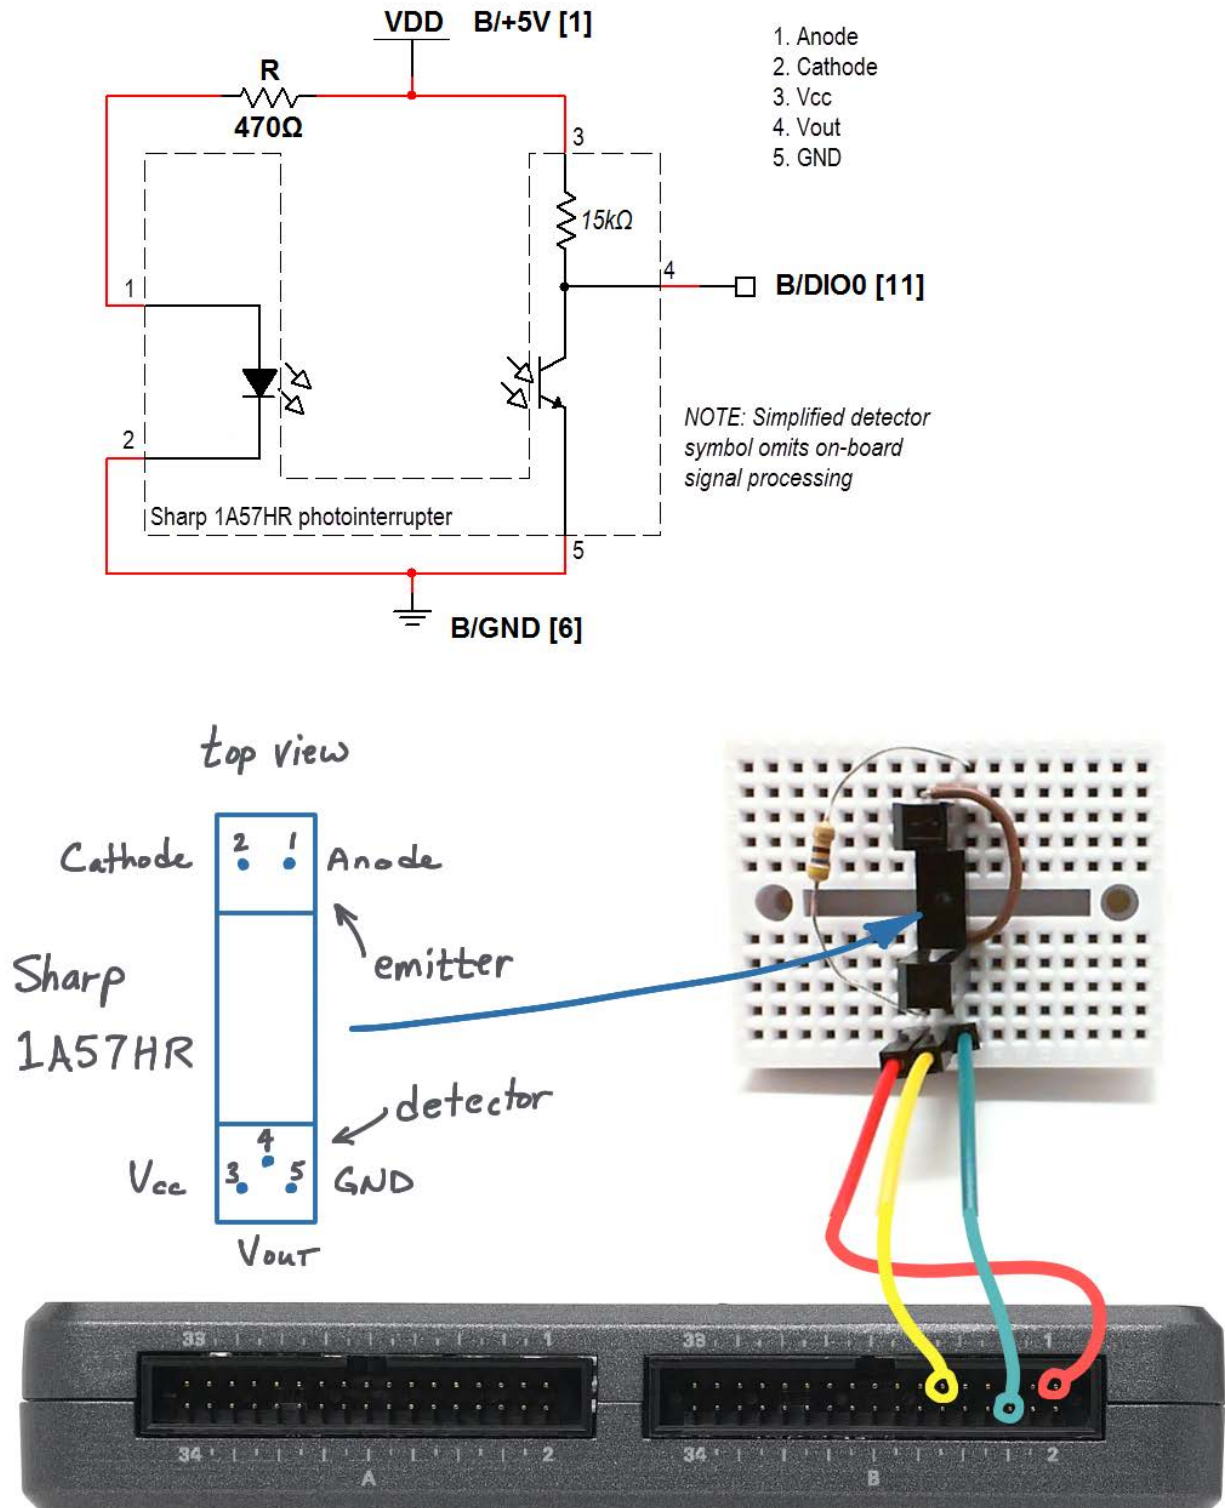

Figure 14.2: Demonstration circuit for photointerrupter: schematic diagram, recommended breadboard layout, and connection to NI myRIO MXP Connector B.
**Build the interface circuit:** Refer to the schematic diagram and recommended breadboard layout shown in Figure 14.2 on the following page. The photointerrupter interface circuit requires three connections to NI myRIO MXP Connector B (see Figure A.1 on page 233):